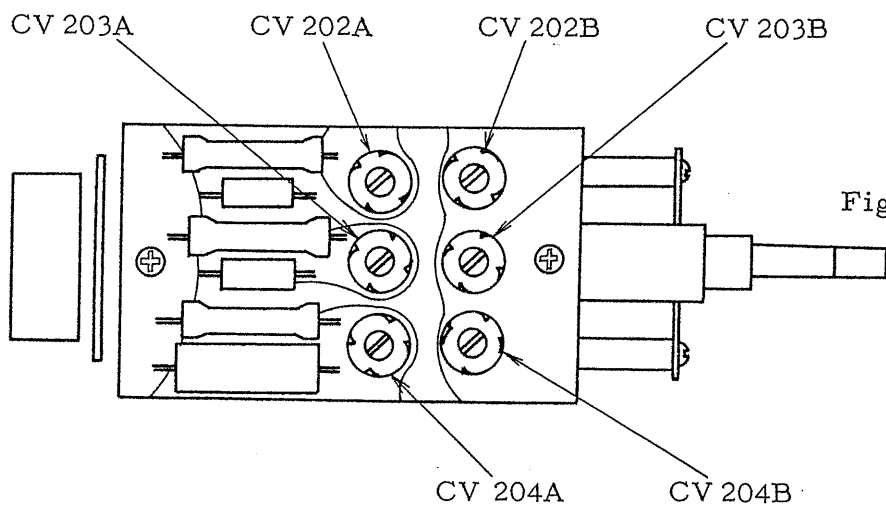

Fig.21
- 5) The input capacity must be adjusted to 30 pF with the CV 202B semi-fixed condenser shown in Fig.21.